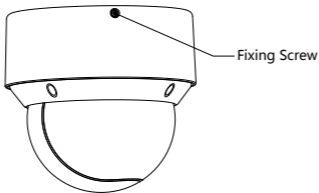

Figure 2-41 Tighten the Fixing Screw
After Type III (IR) PTZ camera is installed, tighten the fixing screw with a screwdriver as shown in Figure 2-41.